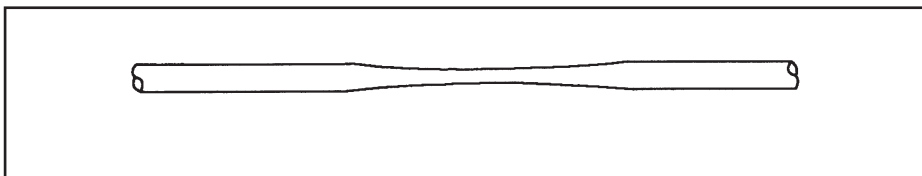

Figure 4.
- "Necking", a stretched cable sheath. See Figure 4.